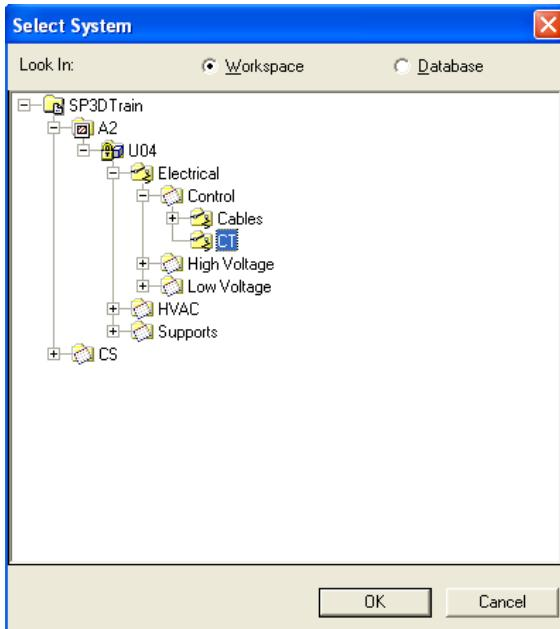

Figure 29: Setting the System for the Cableway
9. In the **Select System** dialog box, select **A2 > U04 > Electrical > Control > CT** and click **OK**, as shown in Figure 29.